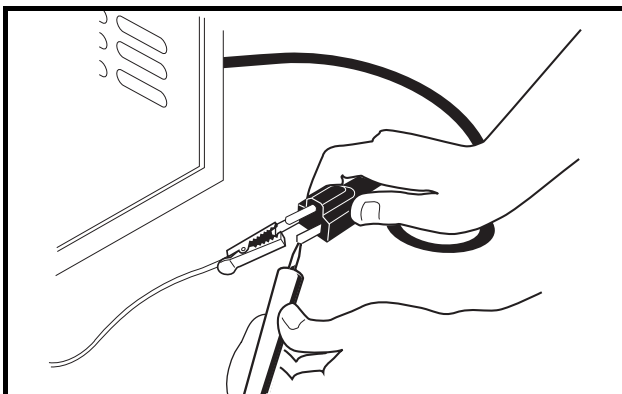

Figure 6-17 AC Cord Test
- 5.3. With relay bypassed, there should be continuity across the AC cord blades (Figure 6-17, Page 6-19).